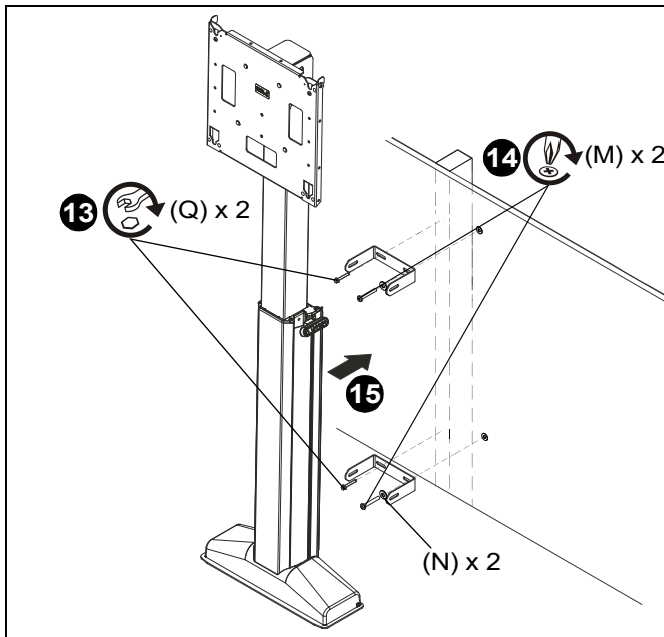

Figure 17
12. Place wall brackets (B1) over anchors and drilled holes and align mounting slots on mount with holes in anchors and wall. (See Figure 17)
13. Install two 5/16 x 2 3/4" hex head tapping bolts (Q) through corresponding mounting slots on mount and into drilled holes on wood stud. DO NOT overtighten! (See Figure 17)
14. Install two 1/4-20 x 1-3/4" Phillips pan machine screws (M) through 1/4" washers (N) and slots on wall bracket (B1) and into toggler anchors (L). (See Figure 17)
15. Position column assembly (P) inside two installed wall brackets (B1). (See Figure 17)